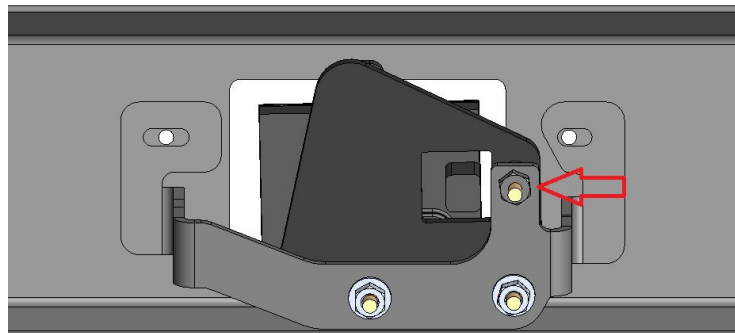

Figure 7
5. Place ACC module w/ bracket flush against mounting surface. Module should be 90 degrees (i.e. perpendicular) to the ground, if truck does not have a rake the top of the bumper could be used instead. If necessary adjust Front face of ACC using the top screw indicated by the arrow and a e6 external socket (Figure 7).